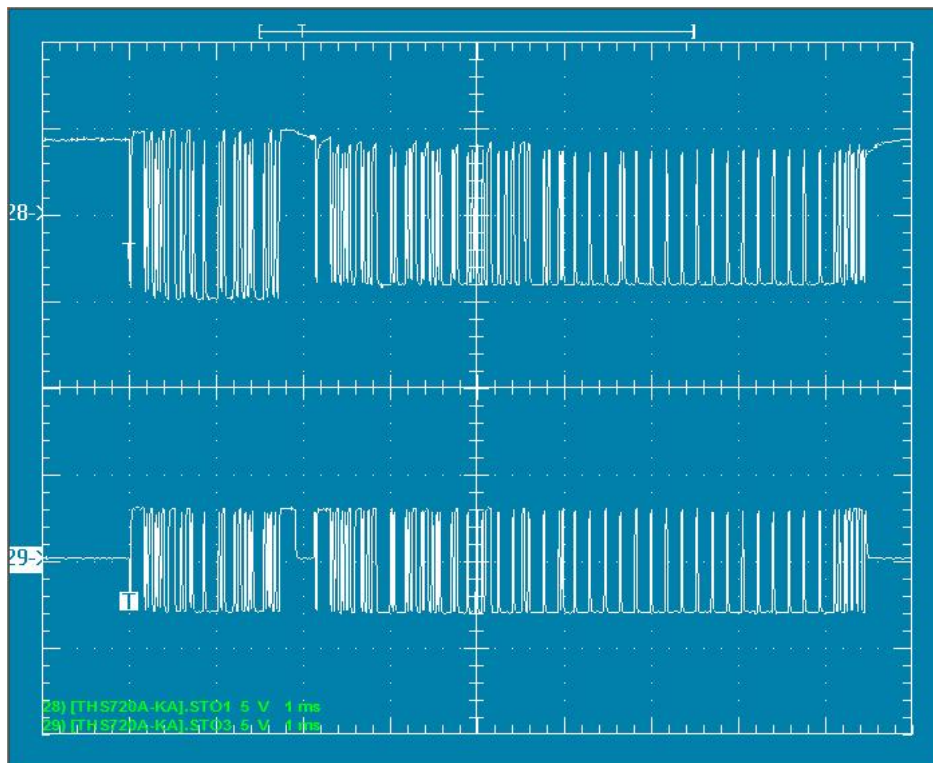
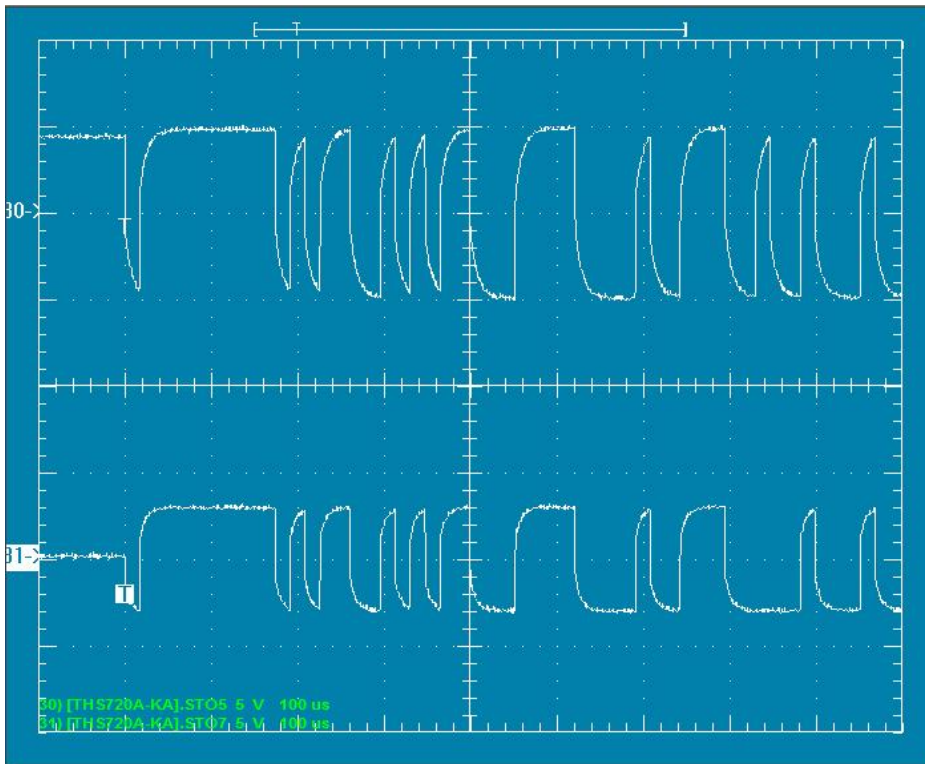

Figure 11 - RS-485 Differential Signal at 5 V/div., 1 msec./div.
Figure 12 - RS-485 Differential Signal at 5 V/div., 100 usec./div.
Figures 11 through 14 show correct RS-485 signaling levels for various line terminations. The top trace in figure 11 shows the differential signal between Data A (+) and Data B (-) on a link with only AC termination and line biasing provided by the end-of-line MVC-IV control. The bottom trace shows the same differential signal with an
Figure 12 is the leading part of figure 11 expanded to 10 x sweep speed. The rounding of the waveform edges is a function of the AC terminator, cable length and total network configuration, but notice that the leading edges of the transitions have a steep rise and fall to the  $\pm 1.5V$  specification level and symmetry about the zero point is maintained.
*Figure 15* is the differential signal between the Data A (+) and Data B (-) lines taken under the same conditions as the bottom trace of *figure 12*. Instead of swinging  $\pm 3.0$  Volts as in *figure 12*, it is swinging + 3.6 Volts and only - 0.5 Volts.